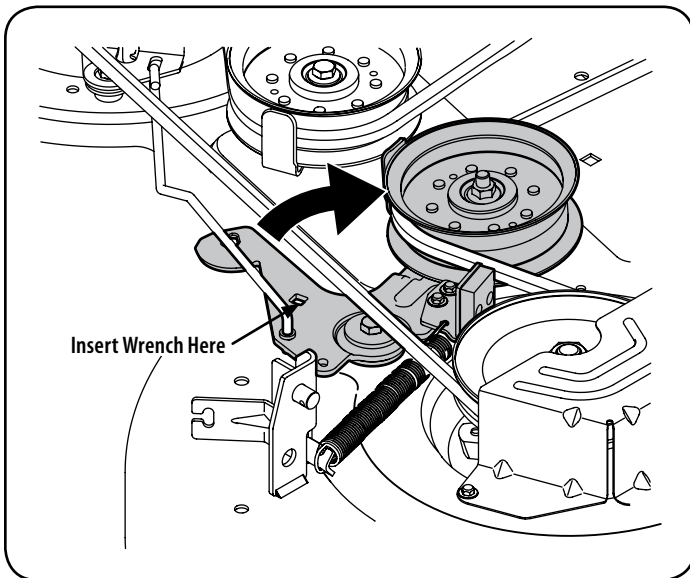

Figure 27
- f. Working on the right side of the tractor, insert a  $\frac{3}{8}$ " drive ratchet wrench, set to tighten, into square hole found on the idler bracket. See Figure 27.